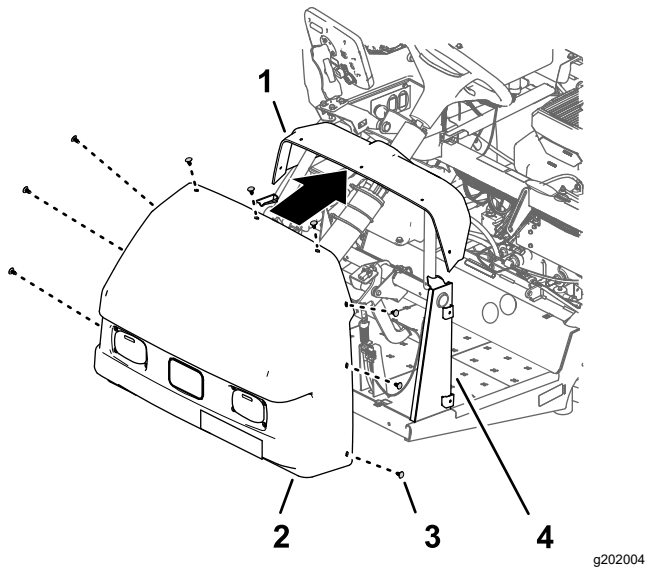

Figure 247
1. Align the hood holes in the hood with the holes in the dash panel and frame of the machine (Figure 247).
2. Secure the hood to the dash and frame with 9 push-in fastener (Figure 247).